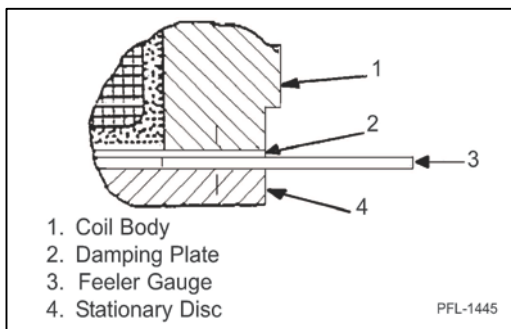

Figure 6
4. Back off the three brake adjustment nuts until the correct brake working air gap is obtained between shim and stationary disc. **See Table 1** for correct air gap. **See Figure 6 & 7.**
2. Slide rubber seal back to expose brake disc. **See Figure 6 & 7.**